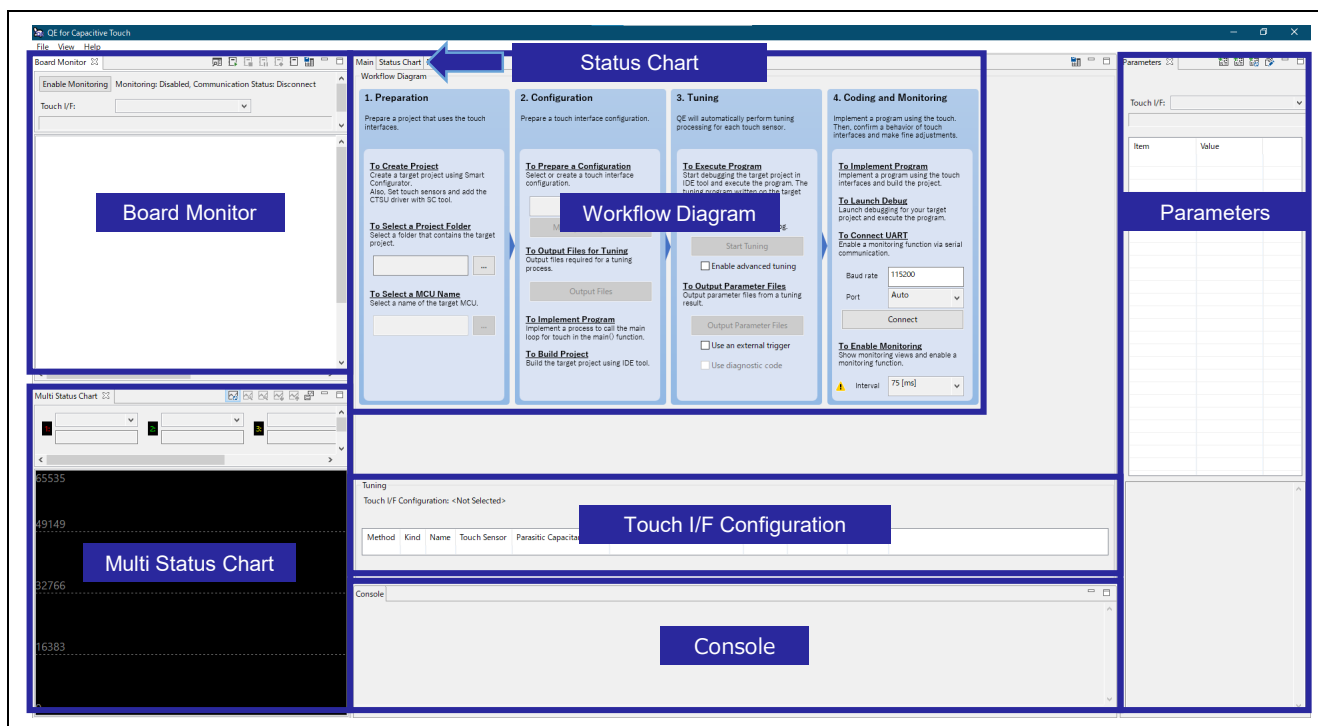

Figure 8-1. QE Window after Launching
2. Figure 8-1 shows the window of QE after launching.